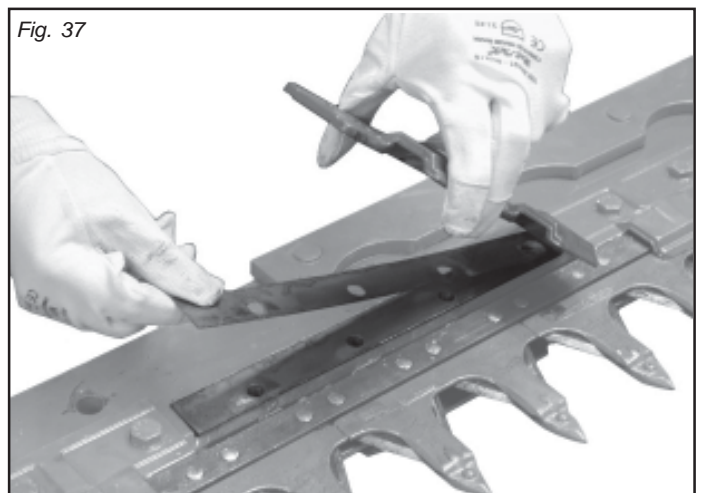

Fig. 37
- remove one or more shims (Fig. 37);